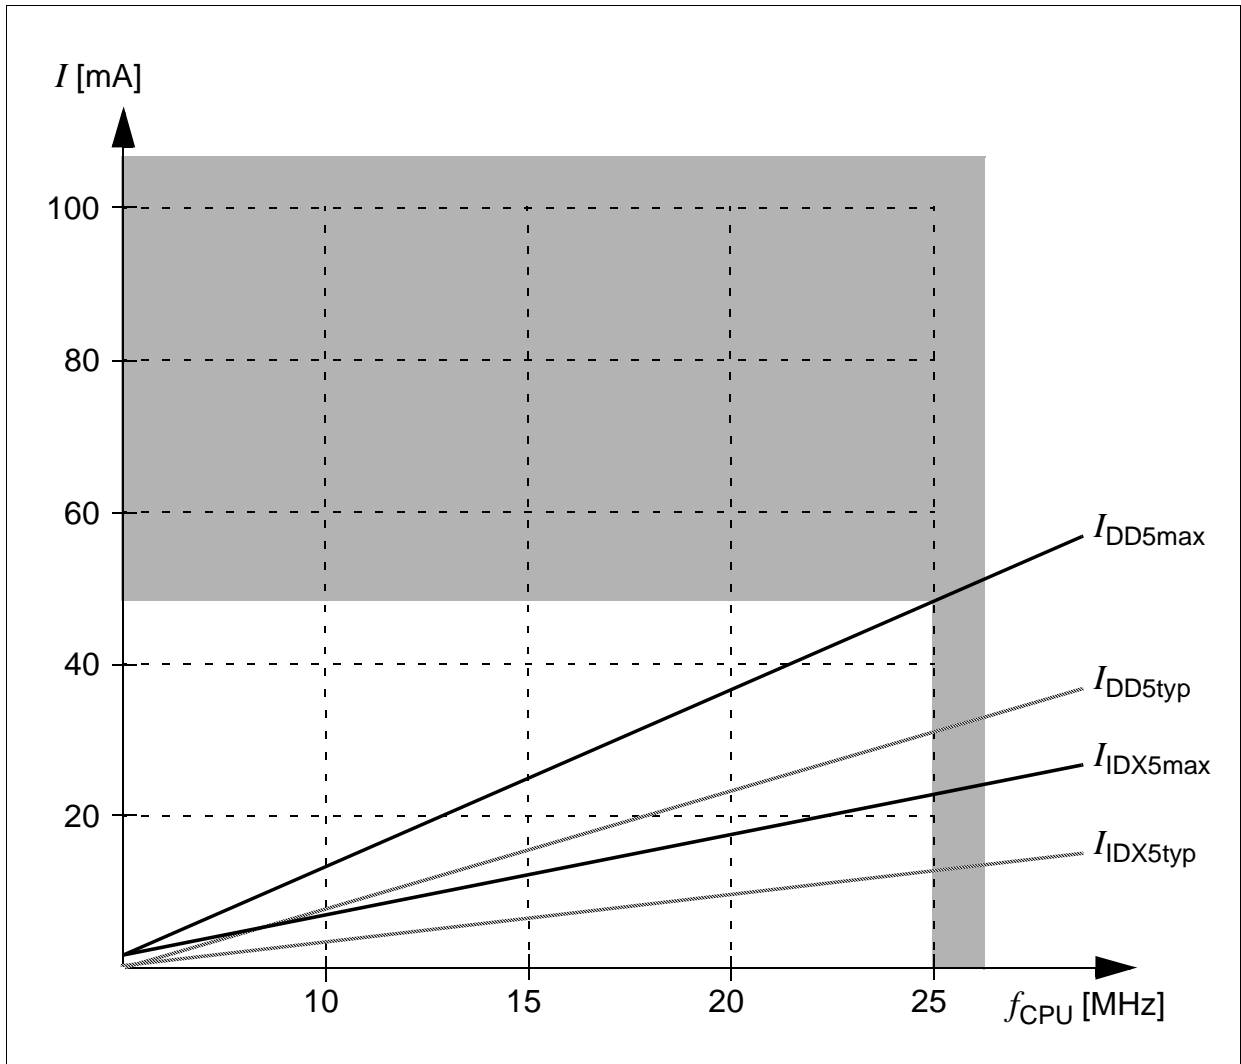

Figure 9 Supply/Idle Current as a Function of Operating Frequency
1) The supply current is a function of the operating frequency. This dependency is illustrated in Figure 9. These parameters are tested at V_{DDmax} and maximum CPU clock with all outputs disconnected and all inputs at V_{IL} or V_{IH} .